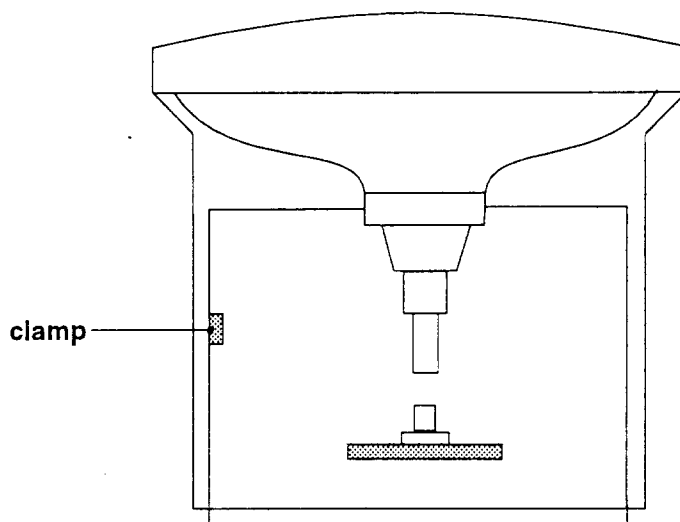

Fig. 4.1
### Location of the Panels (see Fig. 4.1)
- Slide the main panel out of bottom plate, first release plastic clamp, see Fig. 4.1.